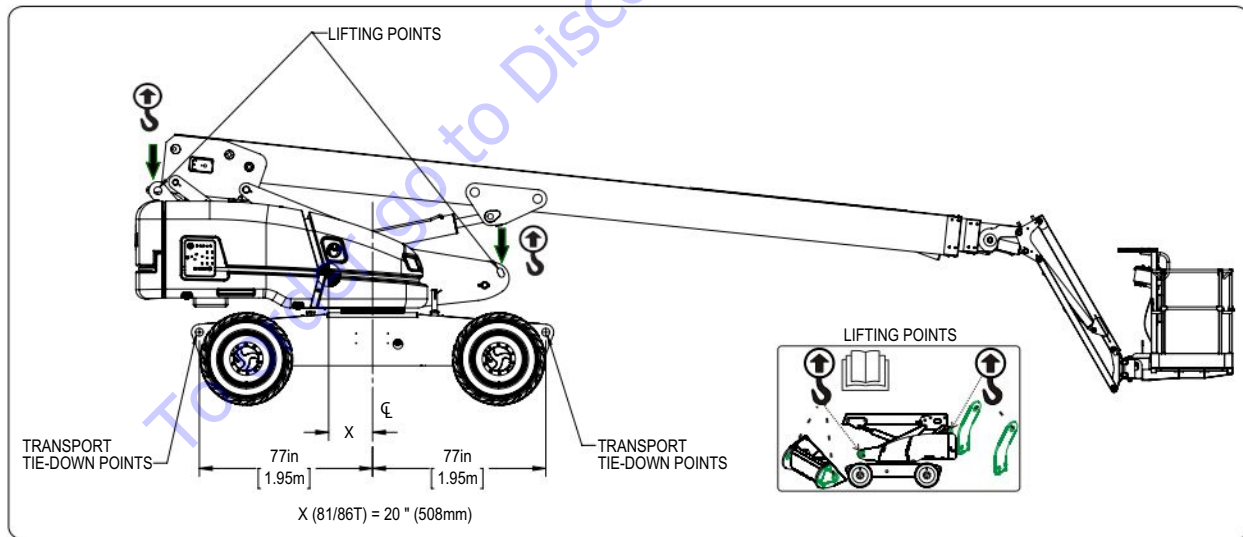

Figure 05 Lift points and approximate center of gravity
1. Rotate the boom and position the MEWP as shown in *Figure 05*.
4. Attach the rigging to all four lift points as shown in *Figure 05*.
5. Adjust the rigging to make sure the MEWP stays level when you hoist it. Refer to *Figure 05* for the center of gravity location.